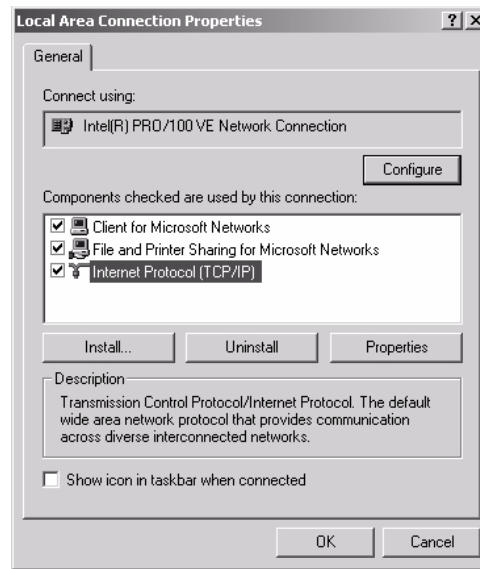

Figure 64: Local Area Connection Properties - Windows 2000
3. Right-click the Local Area Connection icon that represents the terminal network connection and select Properties from the popup menu. The Local Area Connections Properties window appears as shown in Figure 64.